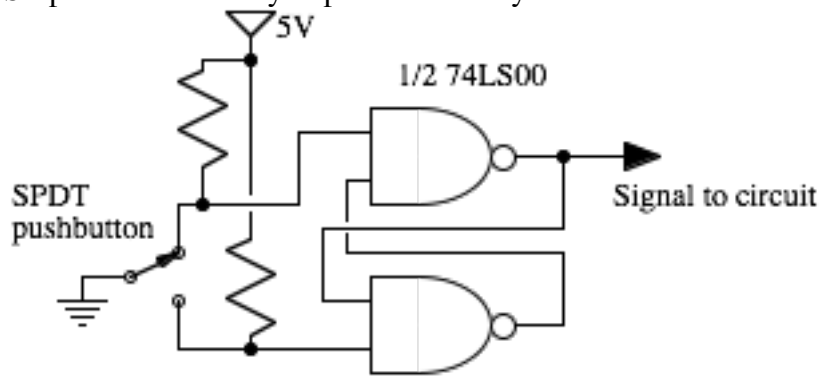

Figure 10 "Debounced" pushbutton circuit that you can use as a slow clock
- 4) Try substituting a slow "clock" for your normal clock, so that transitions happen slowly enough for you to see, and you can probe different points using your meter or an LED probe. (However, probing sensitive points can sometimes create a glitch just from the stray capacitance.) A useful slow pushbutton clock can be formed from two NAND gates (or AND + Invert) as shown in Figure 10. If you do not have a SPDT pushbutton, ask for one. If none is available, you can use two SPST pushbuttons that you push alternately.